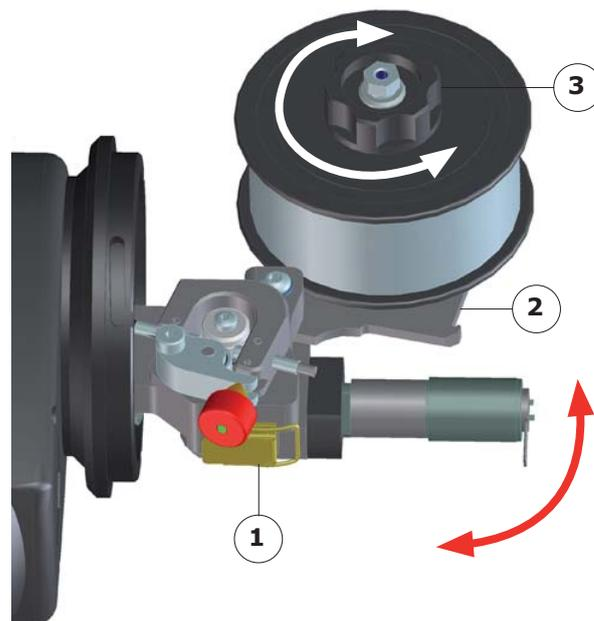

Fig.5.15 - Tilting the spool holder
- Unhook the toggle fastener (Fig.5.15 - 1).
- Tilt the wire feeder holder (Fig.5.15 - 2) to facilitate access to the wire feeder mechanism.
- Loosen the clamping knob on the spool holder (Fig. 5.15 - 3).